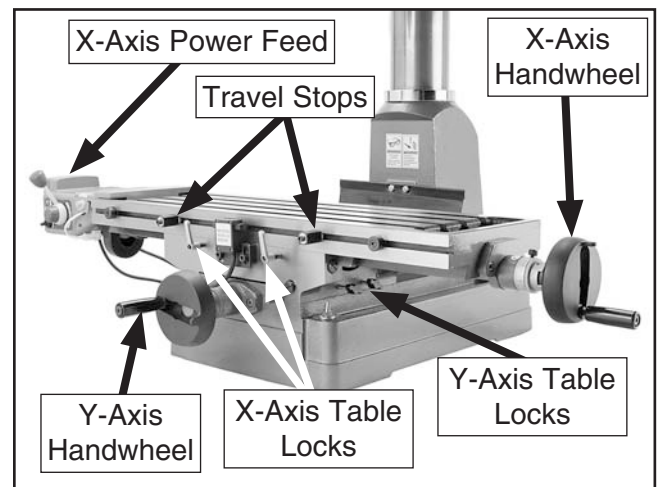

Figure 41. Table X-and Y-axis controls.
The longitudinal feed is moved by the X-axis handwheel at the right end of the table or the X-axis power feed at the left end of the table, as shown in **Figure 41**.
The cross slide in **Figure 41** is moved with the Y-axis handwheel on the front of the table base.
- Loosen the two table locks shown in **Figure 41**.